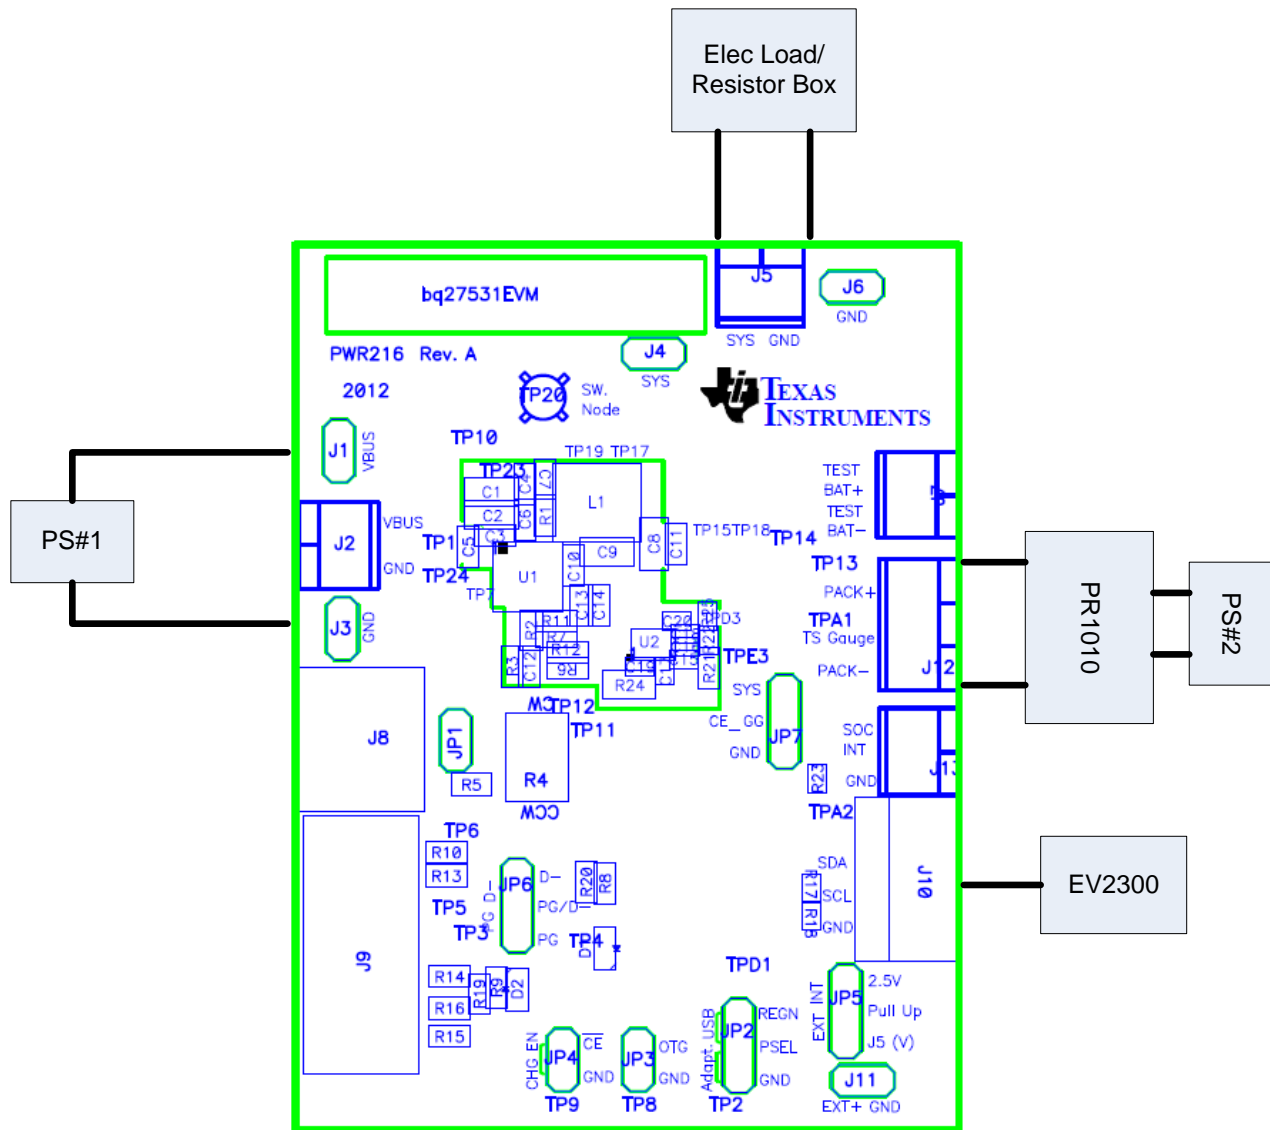

Figure 8. Test Setup for bq27531EVM (PWR216)
3. If BAT\_Load as shown in Figure 8 is used, connect Power Supply #2 (PS #2) set to approximately 3.6 V to the input side (PS #2+/-) of BAT\_Load, then turn off PS #2.
8. After the preceding steps have been performed, the test setup for PWR216 is configured as is shown in Figure 8